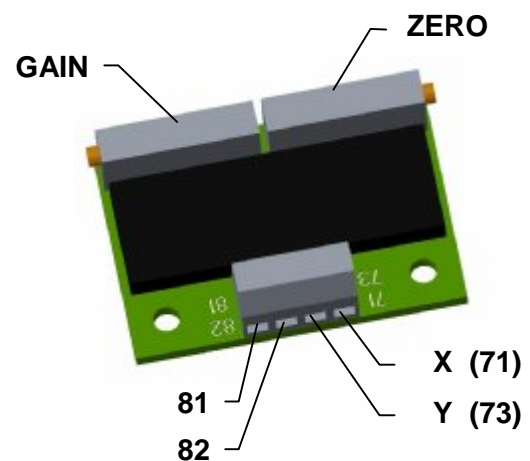

Fig. 6
3.4.1 EPV – the 2-wire version (Fig. 6)
- Adjust the resistive transmitter according to the previous chapter. The resistance is to be metered on the terminals R-R (Fig. 6). The used transmitter resistance is 100 Ω .